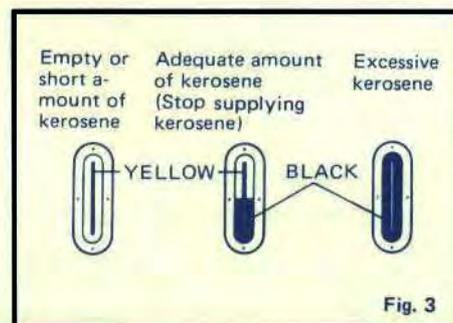

Fig. 3
4. Fill the tank until the fuel level rises to the center of the fuel gauge. (See Fig. 3) **CAUTION:** To allow for fuel expansion and to prevent spillage; never overfill the tank.